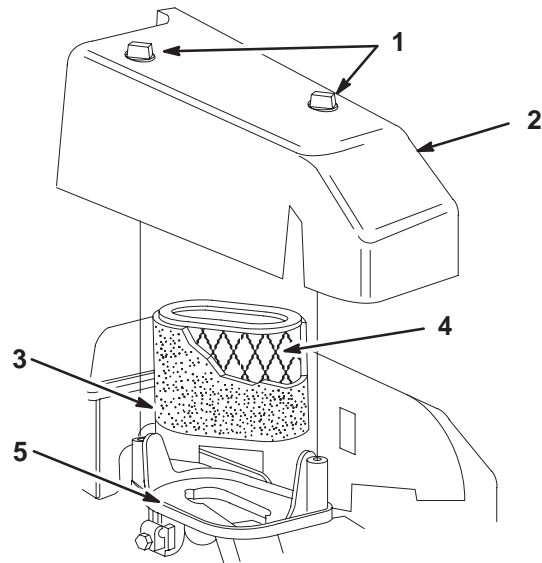

Fig. 22 – Removing Air Cleaner
1. Remove air cleaner screws and air cleaner cover. Remove air cleaner element, Fig. 22.
2. Then remove two (2) screws holding air cleaner/primer base on carburetor, Fig. 22.